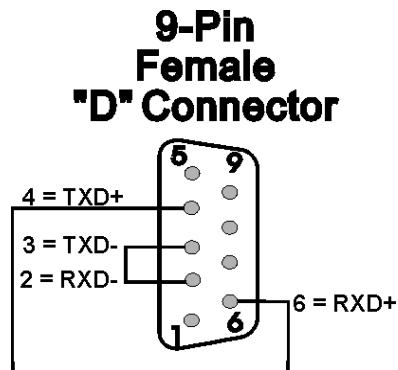

Figure 5-14. RS-485 Loop-back Plug
- Ports 3, 5, and 9 (RS-485) use a 9-pin female D-type loop-back plug (shown in *Figure 5-14*).